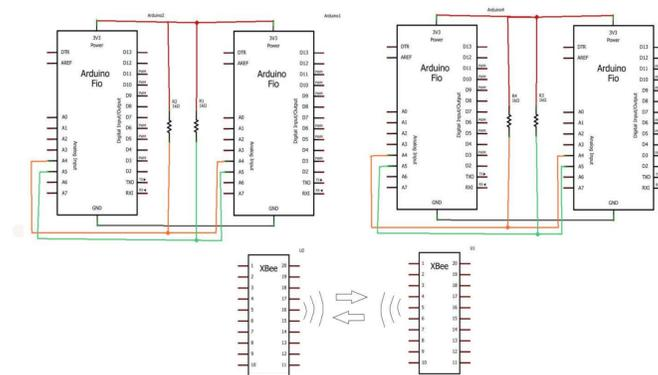

Figure 4: I2C/ Wireless Serial combination. Uses both the wireless Xbee modems and I2C two-wire interfacing.
- I2C/ Wireless Serial combination (Figure 4)